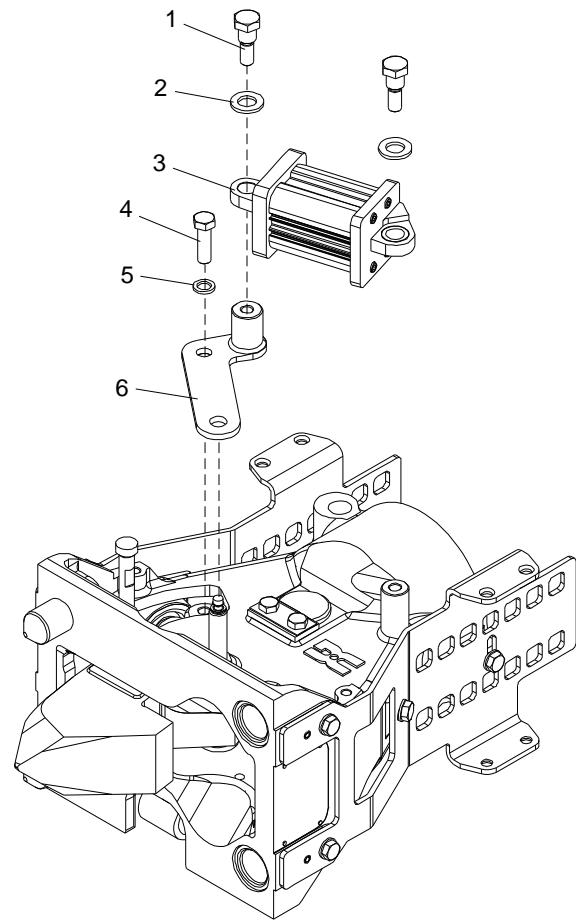

Figure 7-3: Replacement of Uncoupling Arm
2. Remove the bolt (1) and washer (2) and disconnect the uncoupling arm (6) from the uncoupling cylinder (3). See Figure 7-3.
3. Remove the screw (4) and washer (5).
4. Remove the uncoupling arm (6).
2. Fit the uncoupling arm (6). See Figure 7-3.
3. Mount the screw (4) and washer (5).
4. Position the uncoupling cylinder (3) on the uncoupling arm (6). Secure with bolt (1) and washer (2).